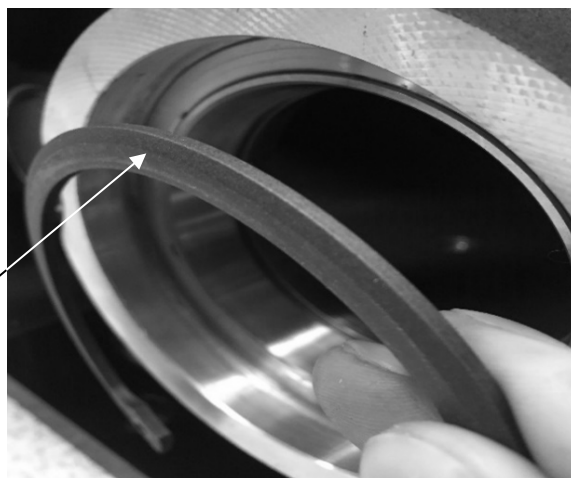

FIGURE 16 | BEVELED RETAINING RING WITH BEVEL FACING OUTWARD
8. Install the beveled retaining ring (VHO-334STPA) with the bevel facing outward. Make sure that the retaining ring fully seats into the groove; see figure 16.